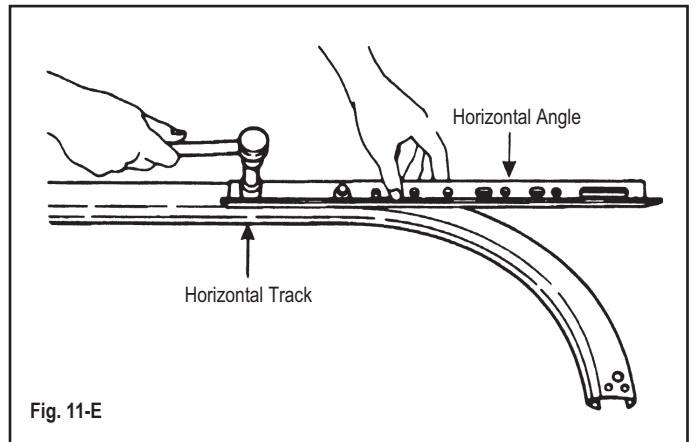

Fig. 11-E
- Temporarily support rear end of track with a rope tied to trusses overhead in garage or resting on tall ladder (Fig. 11-F).